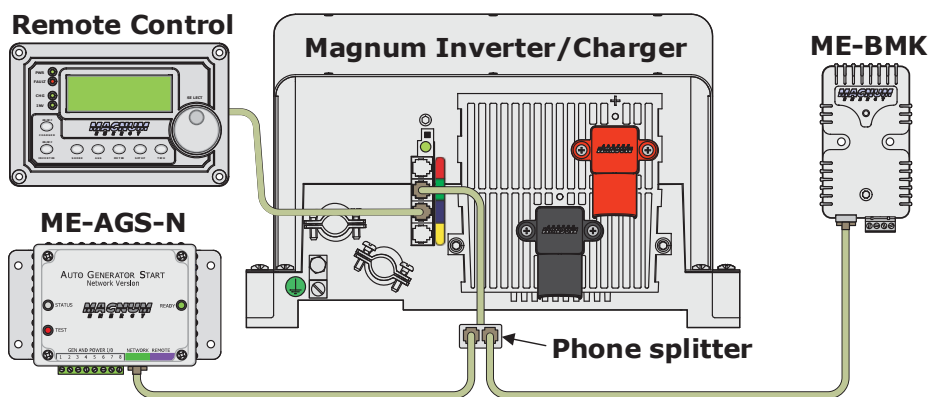

Figure 2-7, Multiple Network Devices – Star Configuration
- **Star Configuration** – All the network devices connect to the inverter’s Network port via a phone splitter—using individual cable runs (Figure 2-7). Since each device is independently connected to the inverter’s MagNet or Network port, problems in a cable or a device can be easily isolated; and, if there is a cable failure to one device it does not bring down all the devices.